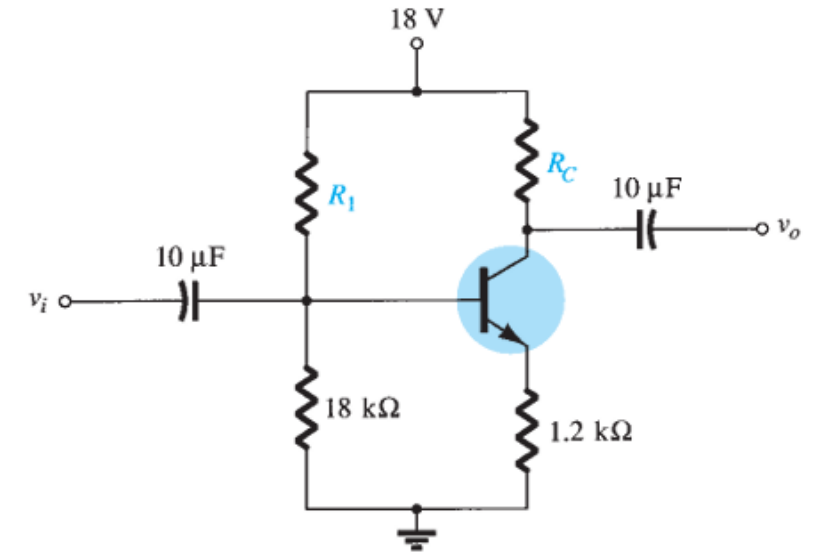

FIG. 4.60
- **EXAMPLE 4.22** Given that $I_{CQ} = 2 \text{ mA}$ and $V_{CEQ} = 10 \text{ V}$, determine R_1 and R_C for the network of Fig. 4.60